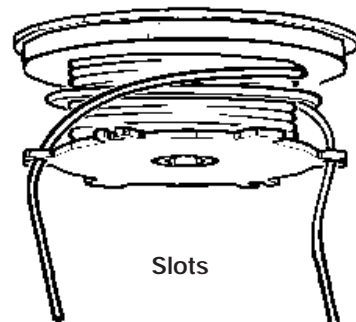

Fig. 17
6. Lock each end of the line into a slot on opposite sides of the spool (Fig. 17).